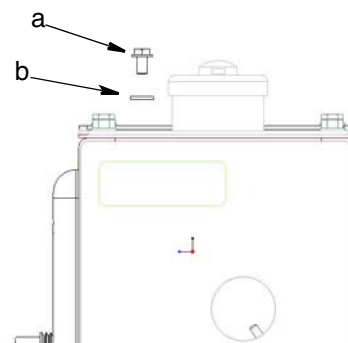

FIG. 2
1. Loosen grounding screw (a) (FIG. 2) and place one end of a 12 gauge (1.5mm) minimum ground wire between the grounding screw and washer (b).